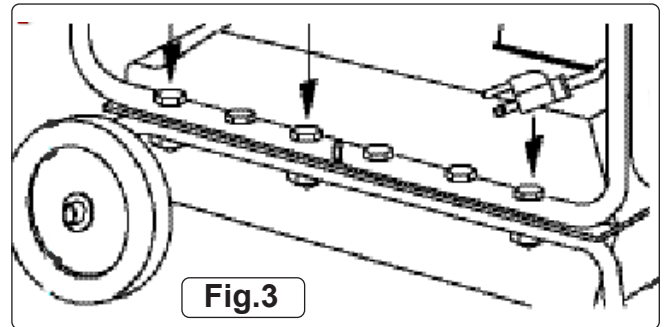

Fig.3
- 4.3. Place main structure on Wheel Frame and fasten with nuts, bolts and washers provided, see fig.3.